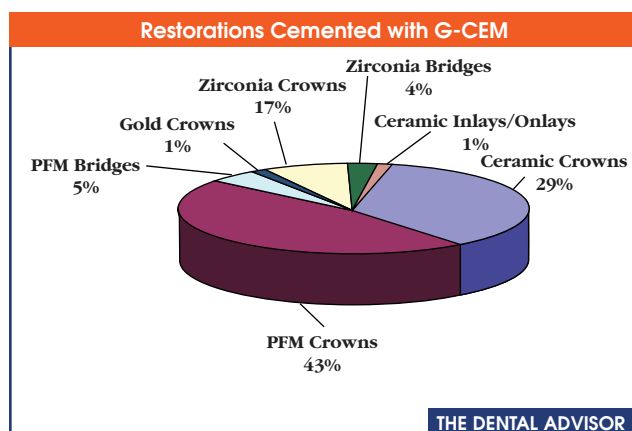

Figure 1
- Restorations included crowns, bridges and inlays/onlays (Figure 1).